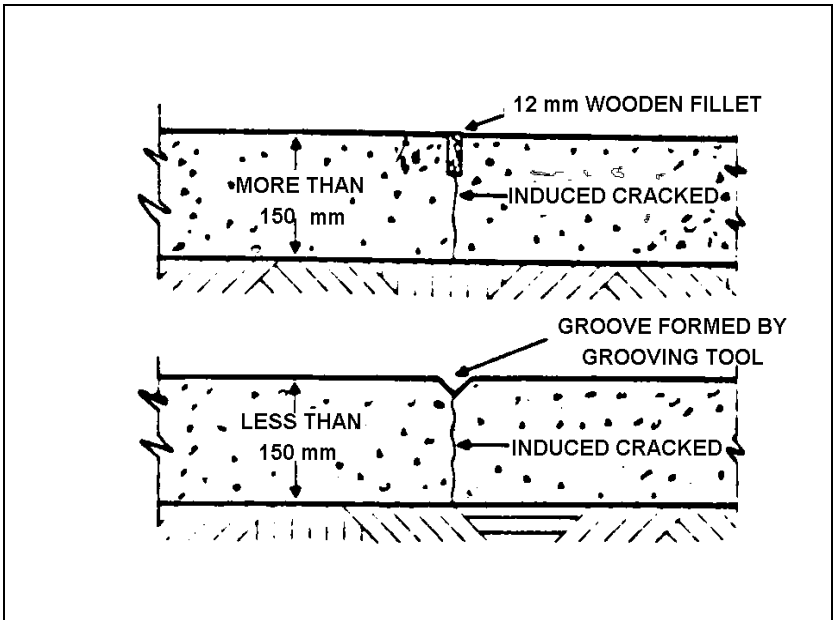

Fig 12-4-2 Control Joints
6. **Control Joints.** Control joints are concrete joints made by creating a plane of weakness in a slab or wall along which the concrete will crack when it shrinks. They are made to relieve the stresses caused by shrinkage and if they are not incorporated, random cracking will occur. Control joints are not generally made in concrete which contains reinforcing steel because shrinkage is restricted by the steel. Two methods of creating a control joint are shown in Fig 12-4-2. A wooden fillet is used when the cement is over 150 mm deep. For cement less than 150 mm deep, a grooving tool will create a plane of sufficient weakness.